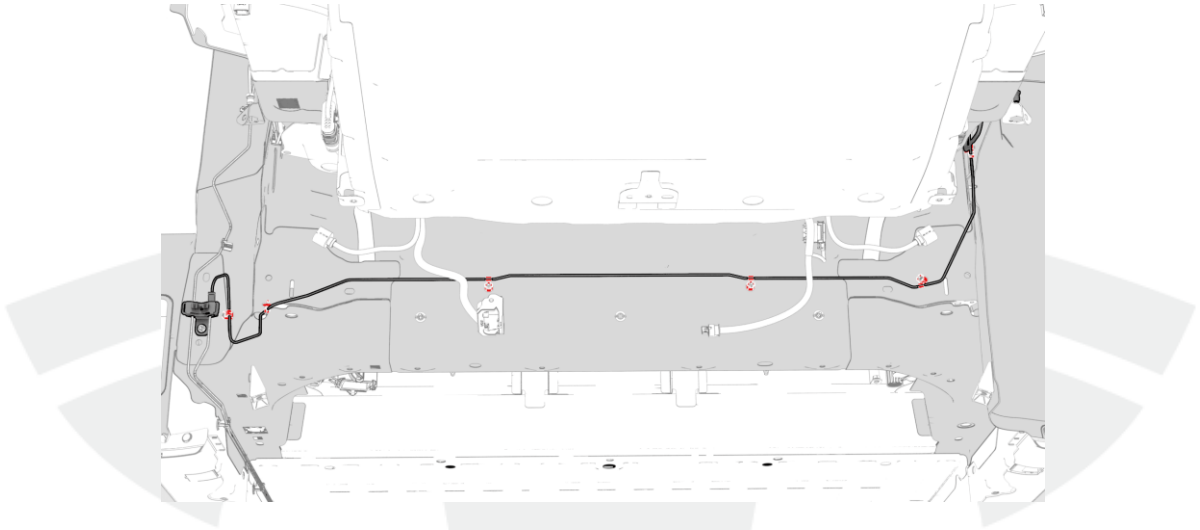

Figure 2
6. Install the RH to sill brake line to the body, and then fasten the clips that attach the brake line to the body (Figures 2 and 3).